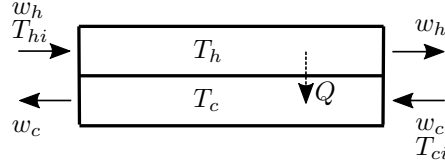

Figure 3: Simple heat exchanger
Consider Figure 3. The the hot and cold mass flow rates w_j , $j = \{h, c\}$ are assumed constant, such that the mass on each side are constant. The inlet temperatures are T_{hi} on the hot side, and T_{ci} on the cold side. The heat transfer from hot to cold side is
- (2%) (c) Make a sketch of the temperature profiles in the hot and cold stream of a counter-flow heat exchanger (in principle like the one shown in Figure 3, where the hot and cold fluid enter on different ends). Draw them both in the same diagram, with position along x -axis and temperature along y -axis. Mark T_{ci} and T_{hi} in the sketch.
- (2%) (d) Do the same for a heat exchanger with parallel flows (where the hot and cold fluids enter at the same end, compared to Figure 3 where they enter on opposite ends). Why do you think counter-flow heat exchangers might be a better set-up than a heat exchanger with parallel flows?